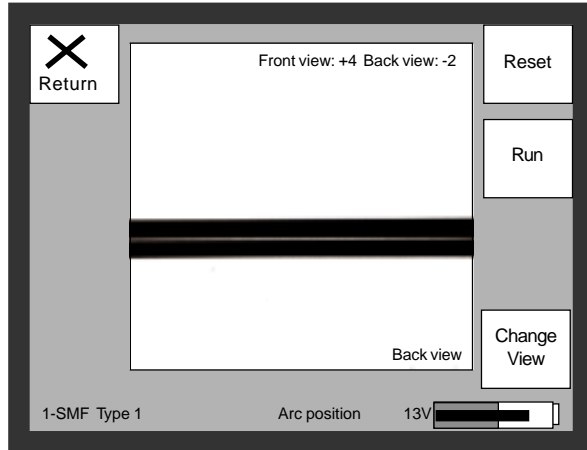

Fig. 89 - Monitor after selecting "Adjust arc position"
The deviation from the default position (in pixels) is shown at the top of the image (see fig. 89). A positive value means that the arc has been moved to the left, a negative value means that it has been moved to the right.
3. From the Utilities menu select "Adjust arc position". The monitor changes as shown in fig. 89.